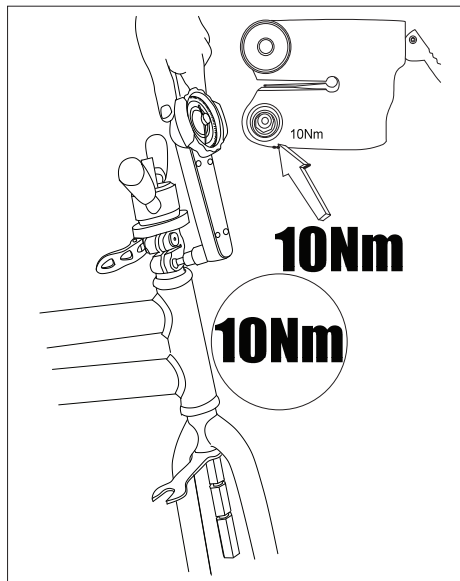

Fig. 52: Tighten Octagon collar bolt.
7. While pressure is being applied to the headset bearings, use a torque wrench to tighten the bolt on the Octagon collar to 88 lb•in (10 N•m). (Fig. 52)